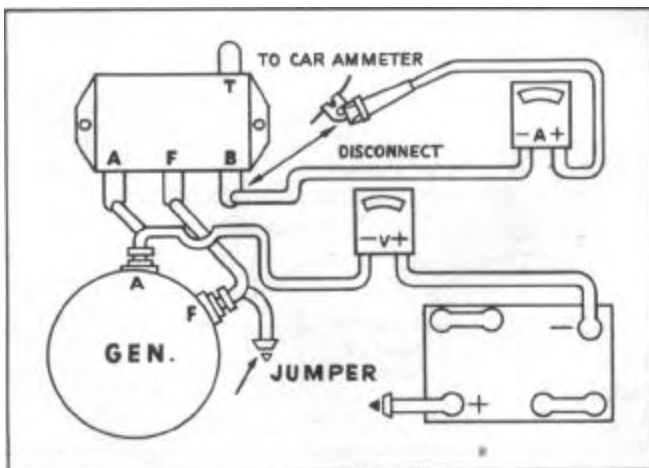

FIGURE 23
1. Disconnect battery lead at voltage regulator "B" terminal; connect the ammeter negative lead to the regulator "B" terminal and the positive lead to the wire disconnected from the regulator, Figure 23.